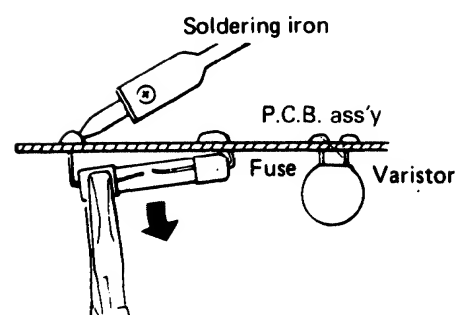

Fig. 16
2. Pull out the fuse at the metal clasp by a pair of pliers while heating the soldered leads on the back side of the P.C.B. ass'y with a soldering iron (30W or 60W). Fig. 16.